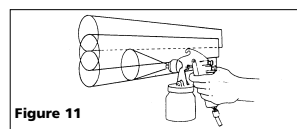

Figure 11
4. Overlap strokes just enough to obtain an even coat (See Figure 11).